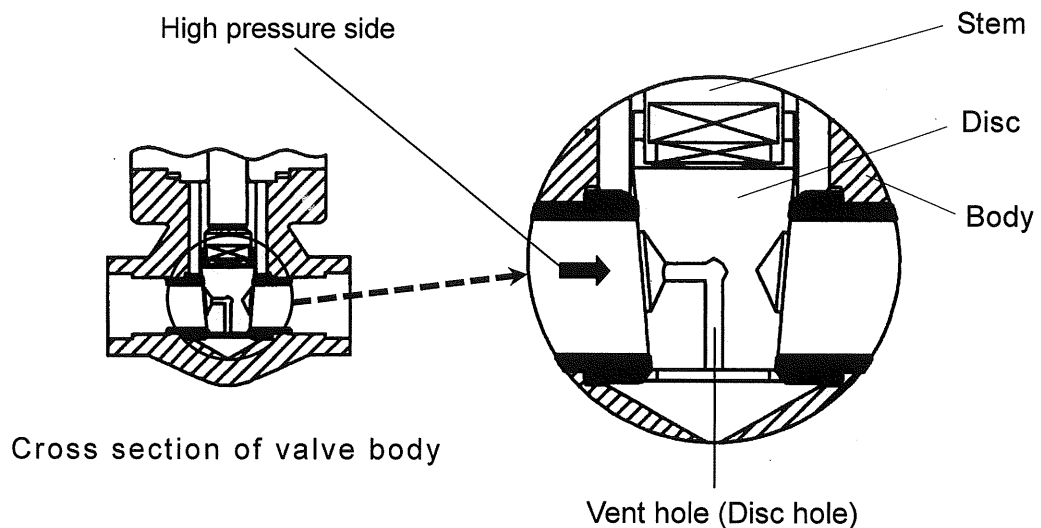

Figure 1.1 Vent hole (Disc hole)
- Vent hole (Disc hole) is set up as shown in the figure 1.1 with the disc by the purchaser's requirement, and the structure that pressure is relieved to prevent the damage of the valve due to this rise in pressure.